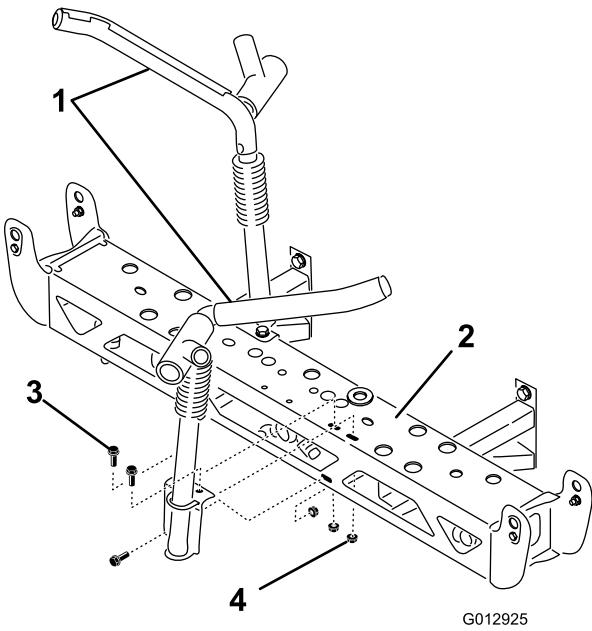

Figure 28
- Install the boom transport cradles to the center boom using 6 bolts (3/8 x 1-1/4 inches) and 6 lock nuts (3/8 inch). Orient them as shown in Figure 28.